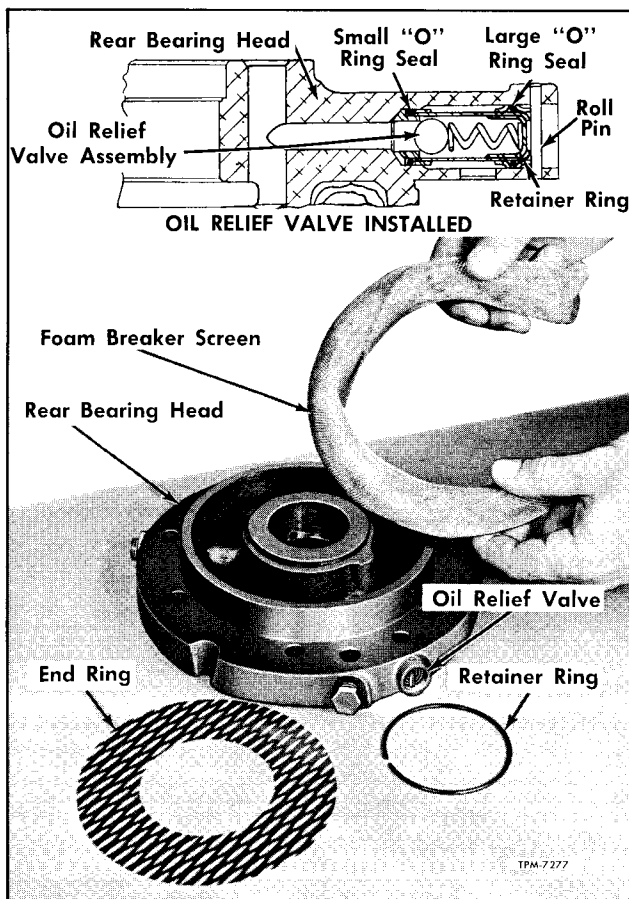

Figure 73—Foam Breaker Screen Removed and Oil Pressure Relief Valve Assembly Installed
1. Remove retaining ring (67) which secures end ring (68) over foam breaker screen (70).
2. Lift foam-breaker screen (70) from recess in head. Screen should be cleaned as directed later under "Cleaning and Inspection." Figure 73 illustrates screen and retaining parts removed from head cavity.
4. Referring to sectional view of figure 73, remove relief valve assembly from bearing head by driving the small retaining pin from over valve. then using a pointed tool through hole in side of head, pry valve from head. Clean and inspect valve components.
5. Remove three check valve assemblies (23) from rear bearing head. Inspect valves for plugged condition.
1. Install check valves (23) into rear bearing head.
2. With O-ring seals in relief valve grooves, install relief valve assembly with retainer ring as shown in sectional view of figure 73, into bearing head. Secure valve in position with pin driven into holes over valve.
4. Roll foam-breaker screen (70) into shape and place in bearing head cavity. Place end ring (68) over screen, then install retaining ring (67). Make certain retaining ring is fully seated in ring groove.